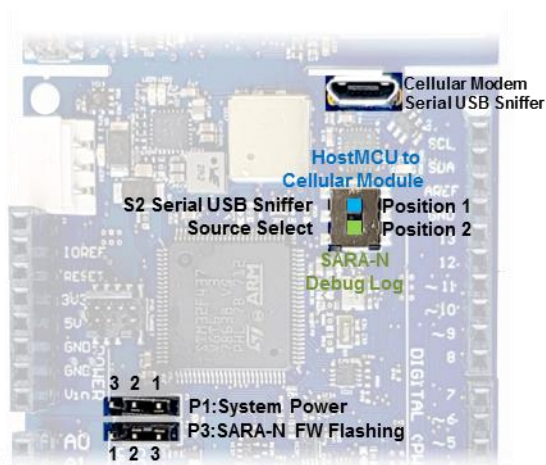
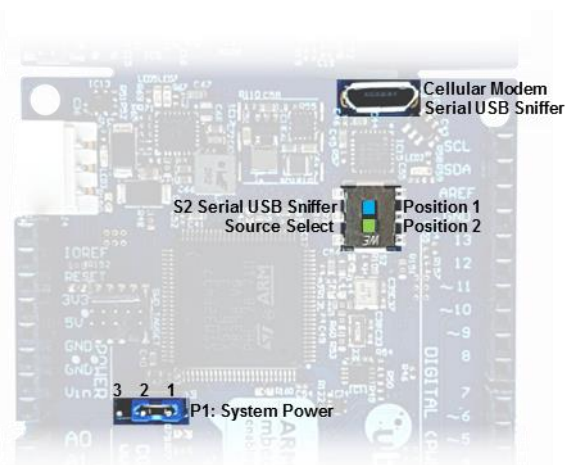

Figure 12: C030-U201 / C030-N211 jumper and switches
Figure 13: C030-R410M / C030-R3121 jumper and switches
The C030 P1 and P3 jumpers and S2 switch positions are depicted in Figure 12 and Figure 13.
- Enhanced COM port as on the development PC. Two operation modes can be selected by using the S2 switch (see Figure 12):
- Enhanced COM port as on the development PC. Two operation modes can be selected by using the S2 switch (see Figure 13):